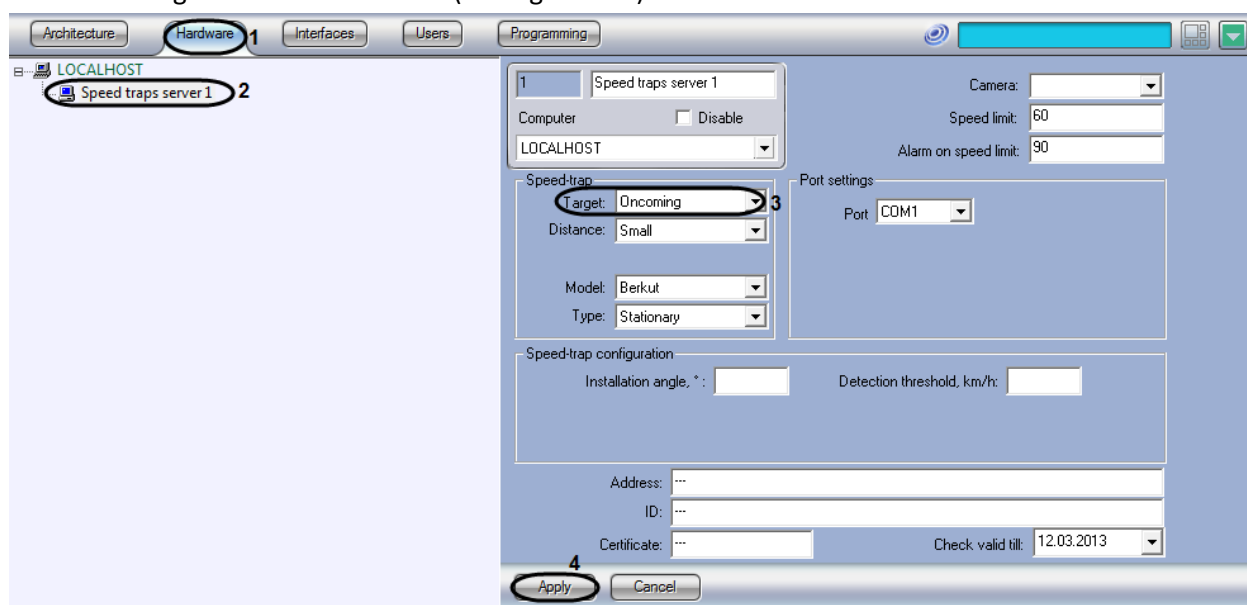

Fig. 7.3—7 Selecting the vehicle movement direction relative to the speed-trap
2. In the object tree on the left side of the Hardware tab, select the Speed-trap server object representing the Radar module to be set up. The settings panel of the selected object will open on the right side of the window (see Fig. 7.3—7).